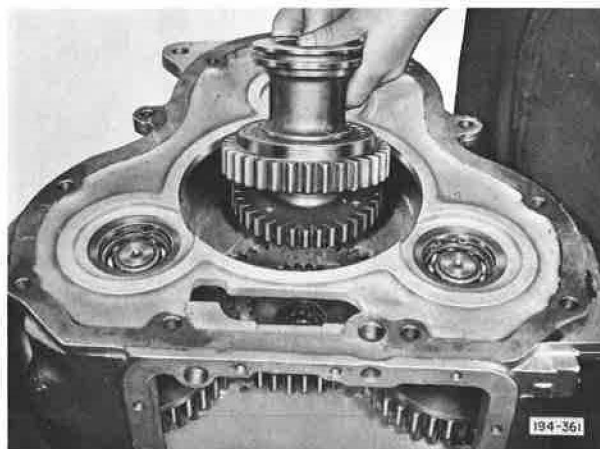

Figure 5-180. Installing Main Driving Pinion Sliding Clutch and Gear Assembly
25. Turn sliding clutch and gear assembly over and carefully engage main driving pinion Hi-range gear teeth (Lo-range for TRDXL107, 1071) with teeth of the three compound countershaft Hi-range gears (Lo-range gears for TRDXL107, 1071) in the case. See Figure 5-180.